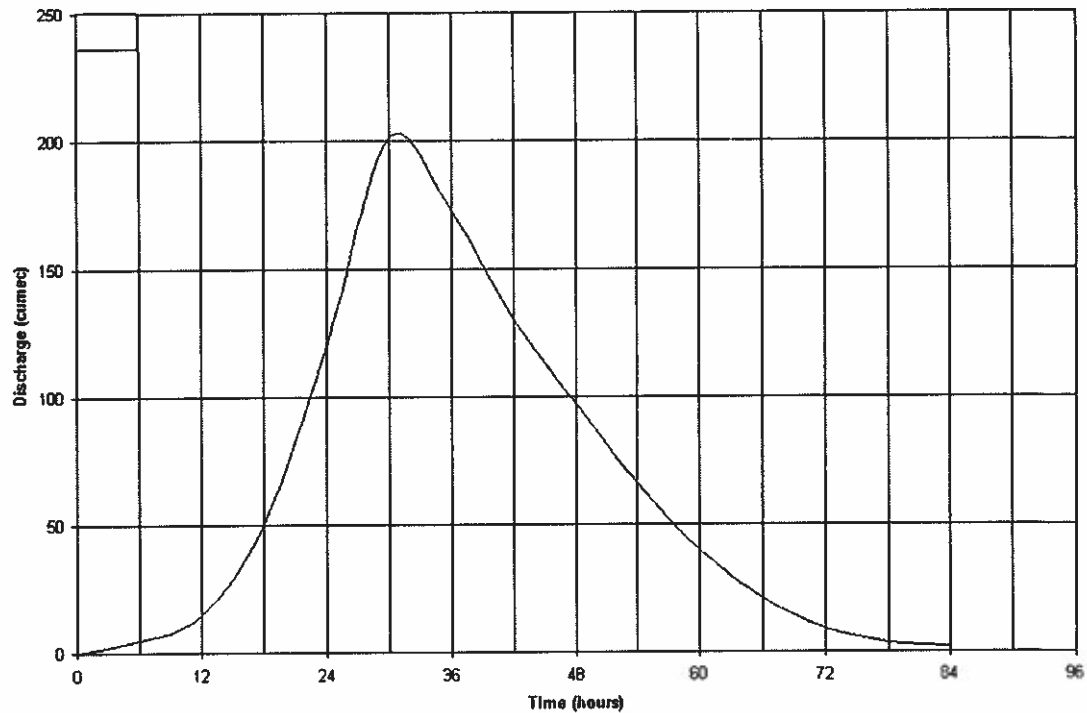

FIGURE 8. A 6-hour unit hydrograph
Assume that a 6-hour unit hydrograph (UH) of a catchment has been derived, whose ordinates are given in the following table and a corresponding graphical representation is shown in Figure8.